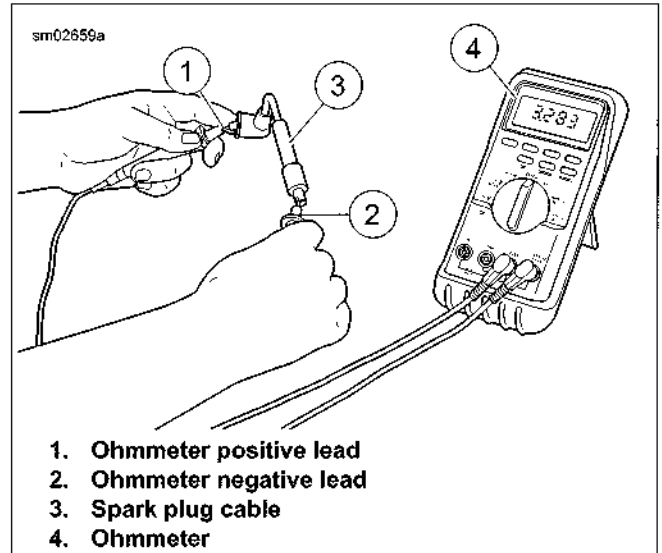

Figure 1-39. Testing Resistance
3. See Figure 1-39. Check spark plug cable resistance with an ohmmeter. Replace cables not meeting resistance specifications. Refer to Table 1-18.